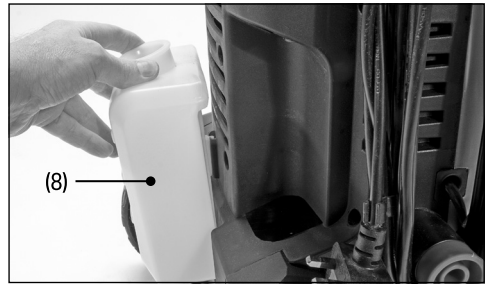
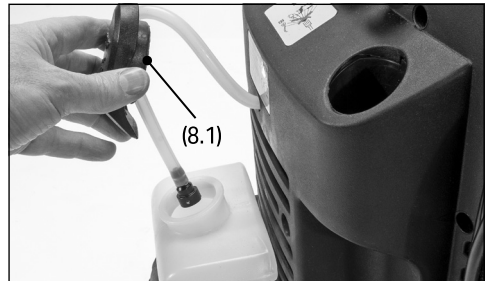

Fig. 5
Fig. 6
6.4 Integrated Detergent Bottle (Fig.5 – Fig.6)
- Lift off the bottle (8) if fitted to the pressure washer.
- Remove the cap and hose (8.1) from the detergent bottle (8) and fill the bottle with a suitable detergent. Follow the manufacturer's recommended instructions for dilution and use.